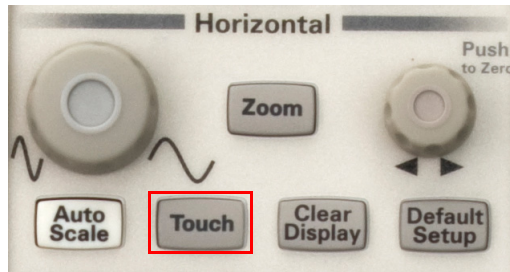

Figure 2-3 Touch button in the Horizontal section
- 1 To enable or disable the touch screen capability, press **Touch** in the Horizontal section of the front panel as shown in Figure 2-3.